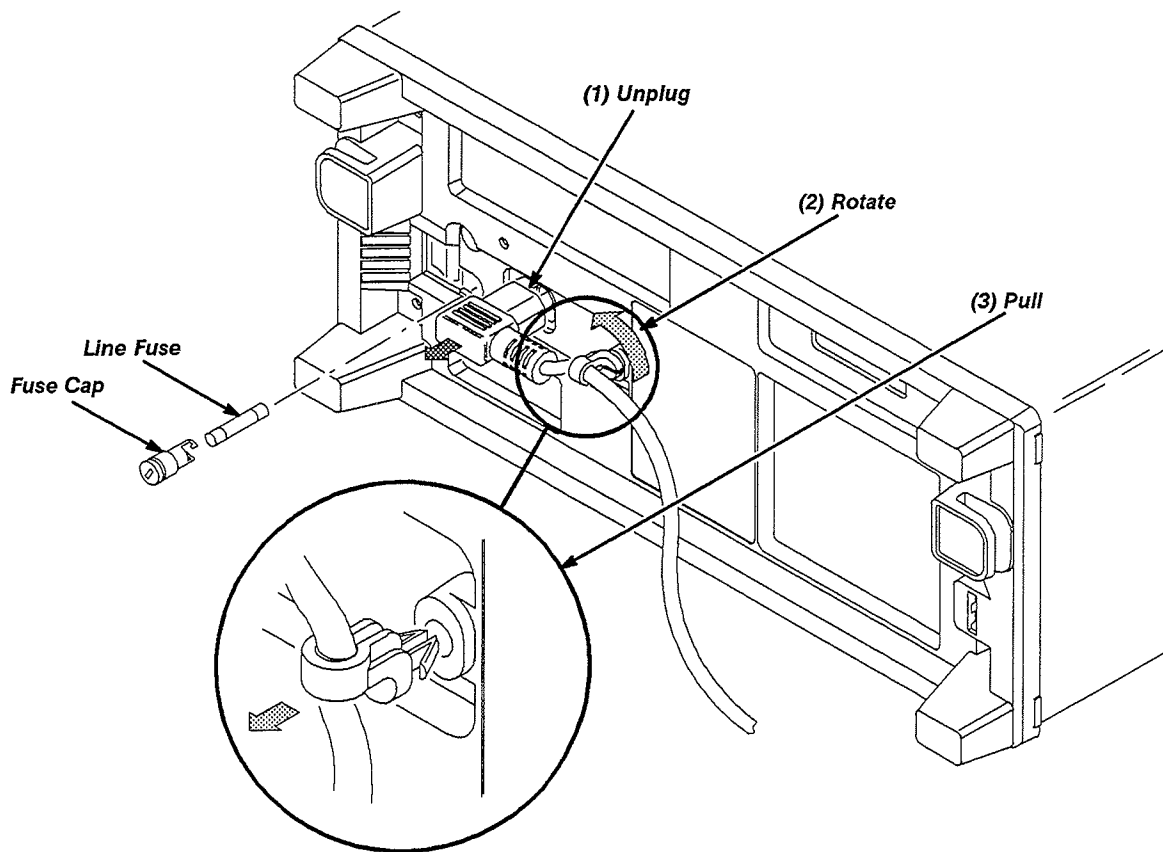

Figure 6-5: Line Fuse and Line Cord Removal
3. *Remove line fuse:* Find the fuse cap on the rear panel. (See Figure 6-5.) Now, remove the fuse cap by turning it counter clockwise using a flat-bladed screwdriver, and remove the line fuse. Reverse procedure to reinstall.
4. *Remove line cord:* Find the line cord on the rear cover. (See Figure 6-5.) Now, remove the line-cord retaining clamp by first unplugging the line cord from its receptacle. Next, grasp both the line cord and the retaining clamp and rotate it 90 degrees counter-clockwise. Pull the line cord and clamp away to complete the removal. Reverse procedure to reinstall.